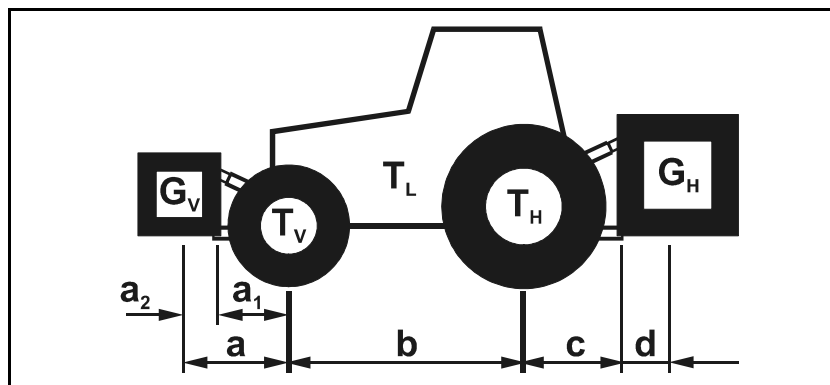

Fig. 25
- Mount the lower link arms of the tractor to the lower coupling points of the machine using lower link pins (Fig. 25/1) and secure using clip pins (Fig. 25/2).
- Use the upper link pin to mount the upper link of the tractor to the upper coupling point of the implement (Fig. 25/3) and secure using a clip pin (Fig. 25/4).